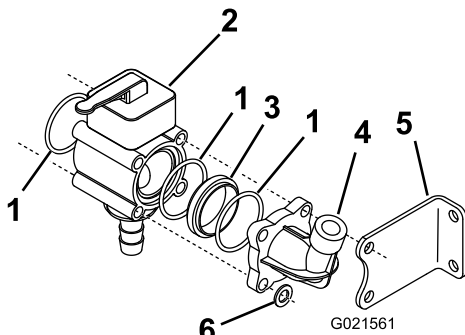

Figure 7
9. Slip washers onto the rods that do not go through the left-hand mount bracket, and thread a locknut on the left-hand end of every rod (Figure 7).
10. Pre-assemble the manual valve manifold assembly using the manual valve, an O-ring, an adapter from loose parts, an O-ring, and the pressure gauge port that you previously removed (Figure 7).
12. Install a washer and 2 jam nuts on the right-hand end of each of the 4 threaded rods to secure the reducing adapter to the boom bypass valve assembly (Figure 7).